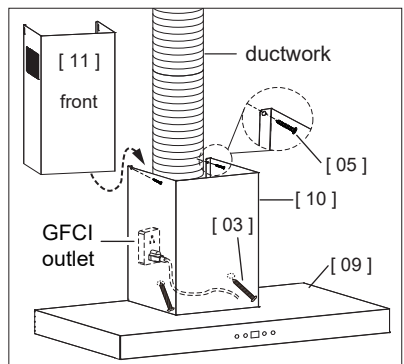

Fig 5
1. Secure **Range Hood [09]** with two **#8 x 1.18" Screws [03]** from the inside. (Fig 5)
2. Connect the **Range Hood [09]** to the **GFCI outlet**. (Fig 5)
3. Install the **Lower Flue [10]** to the groove on the top of **Range Hood [09]** and slide the **Upper Flue [11]** downward from the top of **Lower Flue [10]**. Make sure the front of it faces forward. (Fig 5)
4. Secure the **Lower Flue [10]** with two **#4 x 0.55" Screws [05]** as figure shows. (Fig 5)